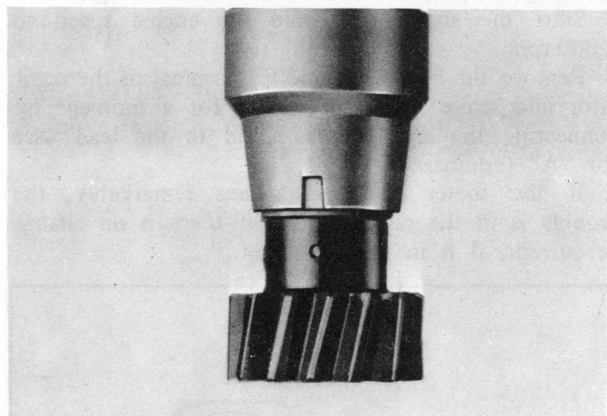

Fig. 5-13 Aligning tally mark
2. Align the tally mark on the distributor housing and driven gear as shown in Fig. 5-13.